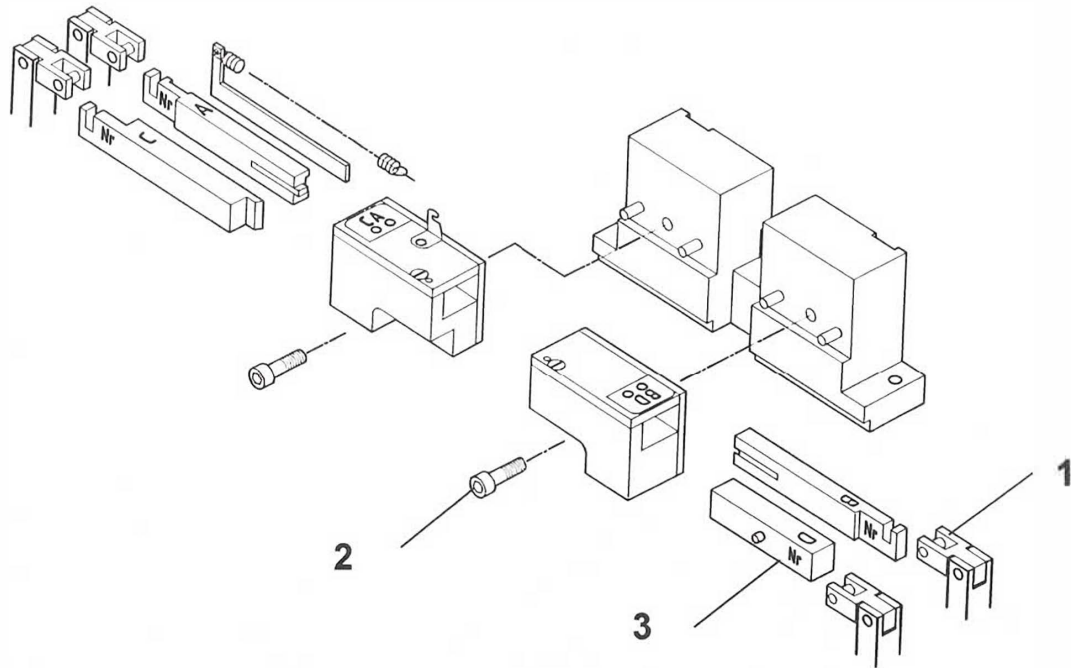

Figure 5
5. Unlock the tools. (collapse the tappet (Fold driver up. (Fig. 5 item 1).
6. Remove the two fixing screws (Fig. 5 item 2) .and take off the tool holder.